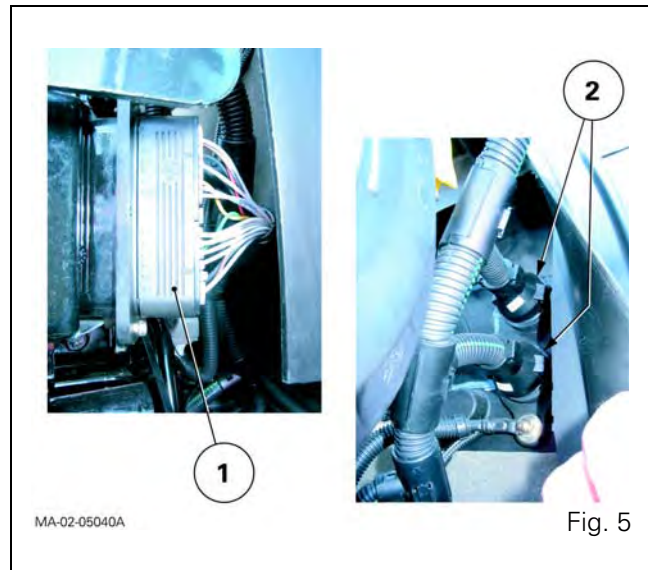

Fig. 5
14. If necessary disconnect the connector (1) of the main wiring harness (Fig. 5).
16. Disconnect the connectors (2) on the left-hand face of the fire wall (Fig. 5).